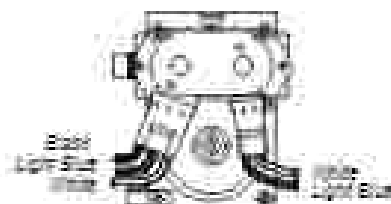

Figure 10 - Measuring gas valve resistance
3. Use an ohmmeter to determine if a gas valve coil has malfunctioned. Remove harness plugs. Measure resistance across the terminals (see Figure 10). Readings should match those shown in the following chart. If not, replace coil.